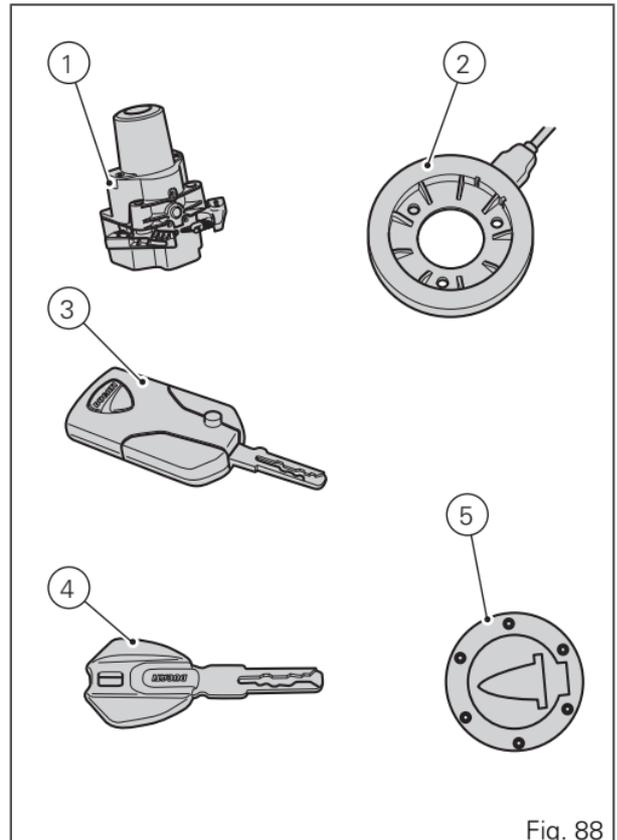

Fig. 88
A Key-On can be performed by pressing the red button (6) on the handlebar in the HANDS FREE ON/OFF position and in the presence of the active key (3, Fig. 88).
Key-Off can be performed by pressing the red button (6) on the handlebar in the HANDS FREE ON/OFF position. It can also be performed without the key (3, Fig. 88) only if motorcycle speed is equal to zero.
with active key. Key-On can be performed by pressing button (7) on the Hands free lock (1, Fig. 88) and with the presence of the active key (3, Fig. 88).
Key-Off can be performed by pressing button (7) on the Hands free lock (1, Fig. 88), also without the key (3, Fig. 88).
A Key-On can be performed by pressing the red button (6) on the handlebar in the HANDS FREE ON/OFF position and in the presence of the passive key (4, Fig. 88).
Key-Off can be performed by pressing the red button (6) on the handlebar in the HANDS FREE ON/OFF position. It can also be performed without the key (4, Fig. 88) only if motorcycle speed is equal to zero.
Key-On can be performed by pressing button (7) on the Hands free lock and with the presence of the passive key (4, Fig. 88).
Key-Off can be performed by pressing button (7) on the Hands free lock (1, Fig. 88), also without the key (4, Fig. 88).
Key-On can be performed by pressing button (7) on the hands free lock (1, Fig. 88) without the presence of the keys (3, Fig. 88) and (4, Fig. 88) and entering the pin code on the instrument panel.